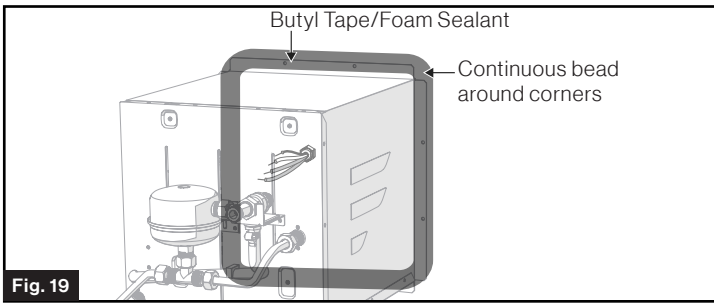

Fig. 19
2. Apply adequate water sealing material, e.g. butyl tape or foam sealant (recommended width: 1", not provided), around the entire backside flange area and holes. (Fig. 19) Evenly center the water heater in the frame. Push the water heater backward until the flange is against the frame.